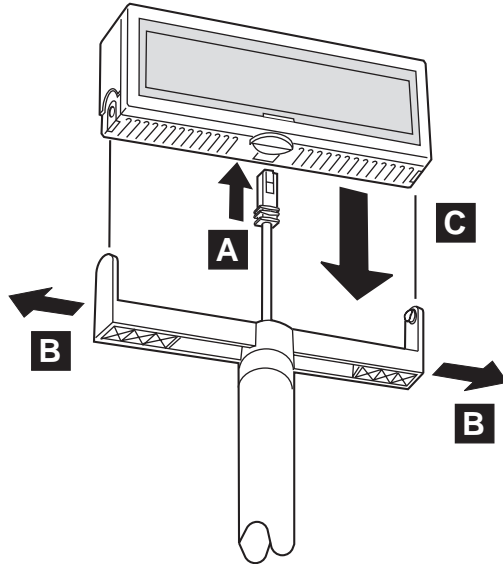

Figure 68. Placement of the character/graphics display on the arm
3. Connect the display cable ( **A** in Figure 68 on page 70) to the display unit. Spread the arms on the character/graphics display ( **B** ) slightly, and install the display unit ( **C** ).